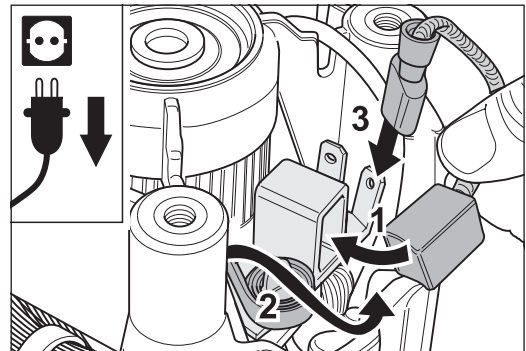

Fig. 55 Insert the new carbon brush (1), turn the brass pressure clamp back (2) and attach the connector (3).
- 5 Insert the new carbon brush (fig. 55, 1) and turn back the brass pressure clamp of the carbon holder (fig. 55, 2).
- 6 Attach the carbon brush connector to the contact in the carbon holder provided (fig. 55, 3). Install the carbon brush cable like the other old carbon brushes that are still installed. This will prevent a later pinching of the cable.